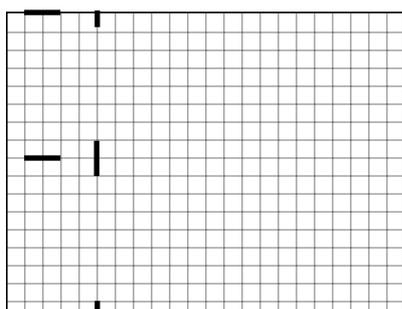

Fig. 2
5) Write test patterns on the sheet surface. (See Figures 2 and 3.)
As shown in Figure 2, write test patterns on the plate surface using a black marker.